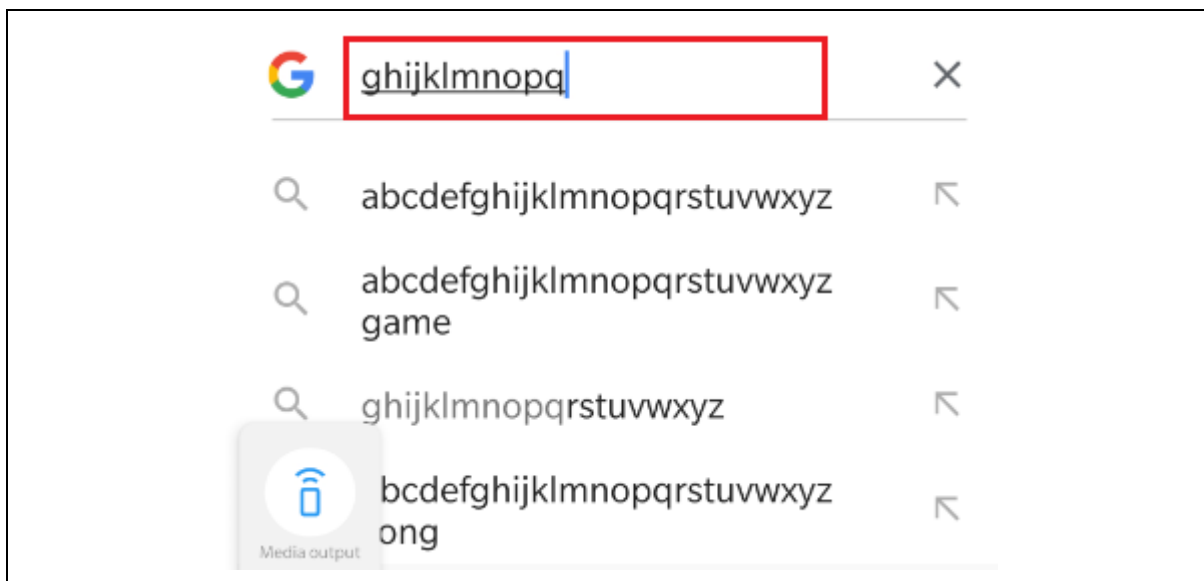

Figure 4-18 HID Keyboard Demonstration
6. If user opens a keyboard input-able application (e.g. Google search) on mobile phone, HOGP\_keyboard repeats to input keys 'a' 'b' ~ 'z' ~ '1' '2' ~ '9', as shown in Figure 4-18.